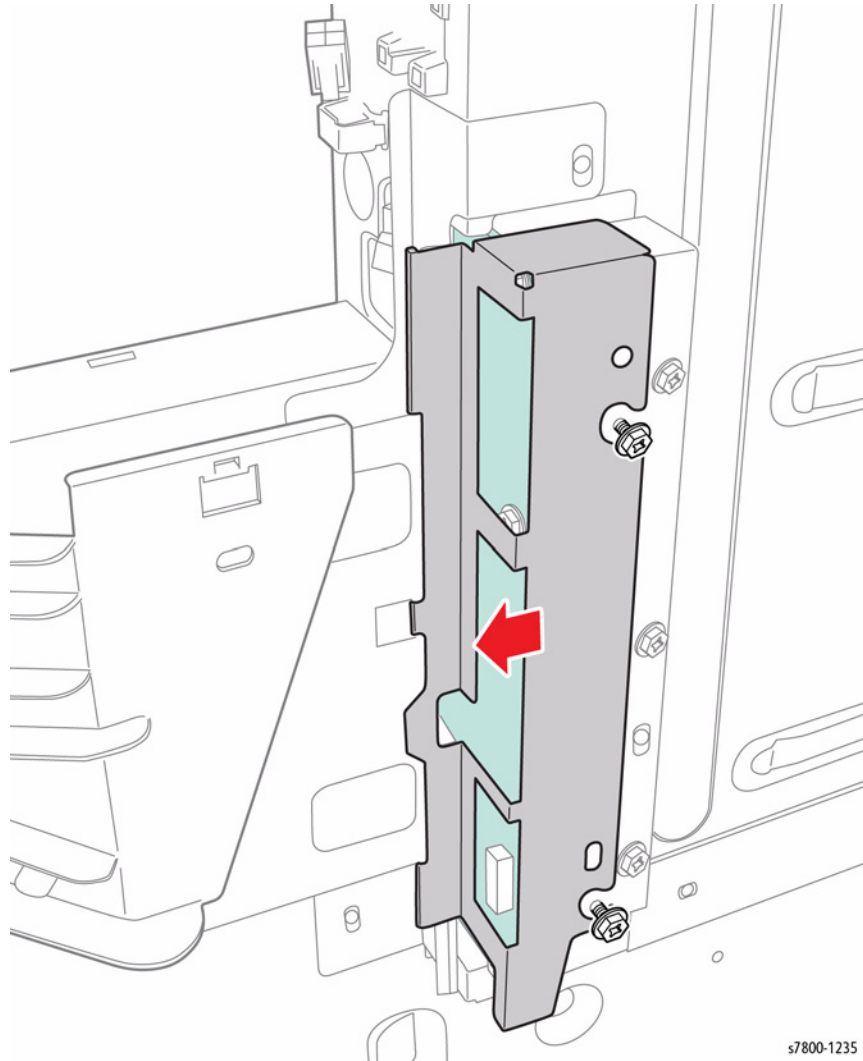

Figure 4 Removing the Shield
9. Remove the Shield in the direction of the arrow as shown in Figure 4.